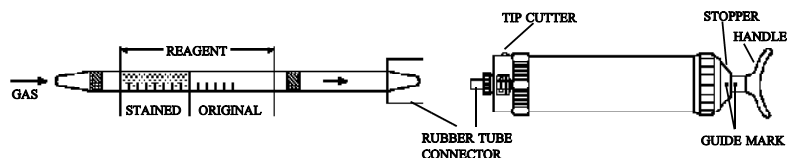

Fig.1
- ① Break both ends of detector tube.
- ② Insert the detector tube into aspirating pump securely as shown in Fig.1. (Arrow mark shall point to the pump.)
- ③ Align the guide marks on the shaft and stopper of the aspirating pump.
- ④ Pull pump handle to full stroke until it locks and wait for 1.5 minutes or until confirmation that sampling is completed (See descriptions of the flow indicator in the pump instructions).
- ⑤ On completion of sampling, read the scale at the top of the stained layer.
- ⑥ If the discolouration is over the scale, change the tube and pull 1/2 stroke.